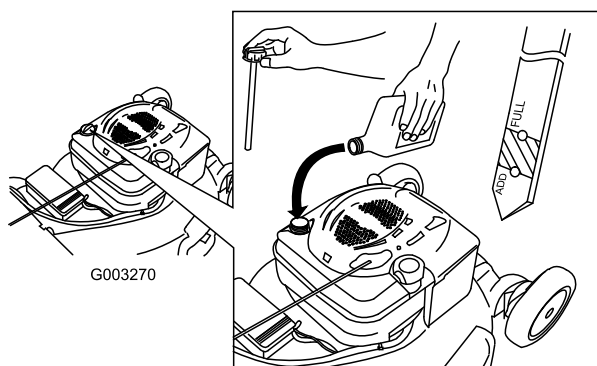

Figure 37
4. **Slowly** pour oil into the oil fill tube until the oil level reaches the Full line on the dipstick (Figure 37). **Do not overfill.** (Max. fill: 20 oz. (0.59 l), type: SAE 30W detergent oil with an API service classification of SF, SG, SH, SJ, SL, or higher.)